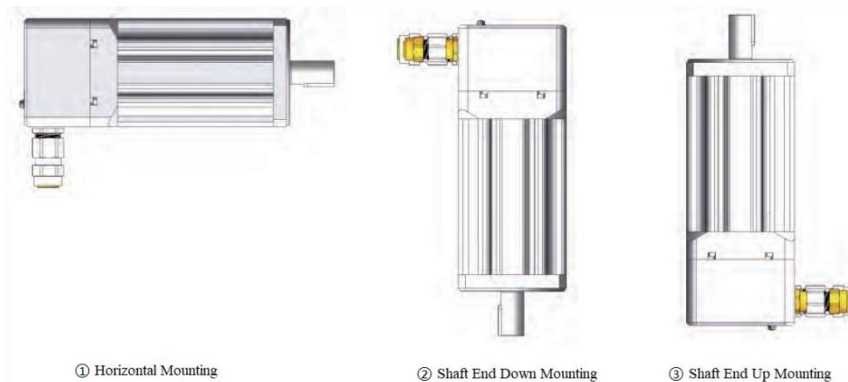

Figure 8 Common motor installation methods
6. When the motor is installed horizontally, it is recommended to position the connector below the motor housing for better environmental protection (Figure 8-①); when the motor shaft is installed with its extended end facing upward, a shaft seal must be installed to prevent water or oil from entering the motor interior (Figure 8-③).